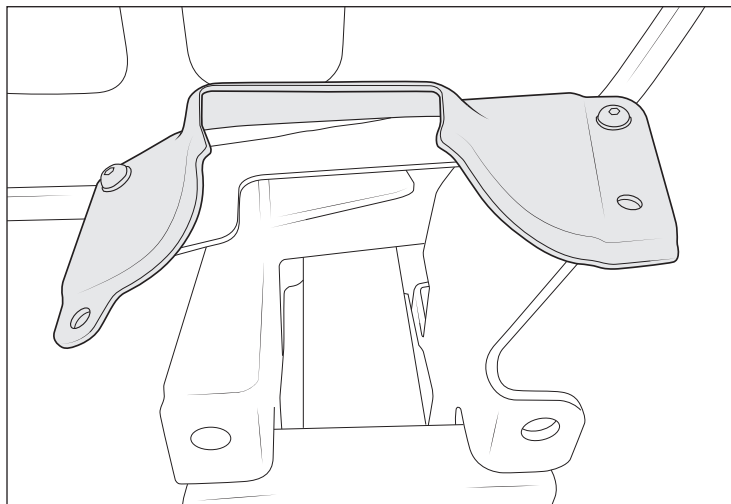

Figure 5
5. Install the tube closeout stampings. Hold them in place using the provided black M8x25mm button head bolts, washers, and nuts in the inboard rear holes only. Only hand tighten for now (fig. 5).